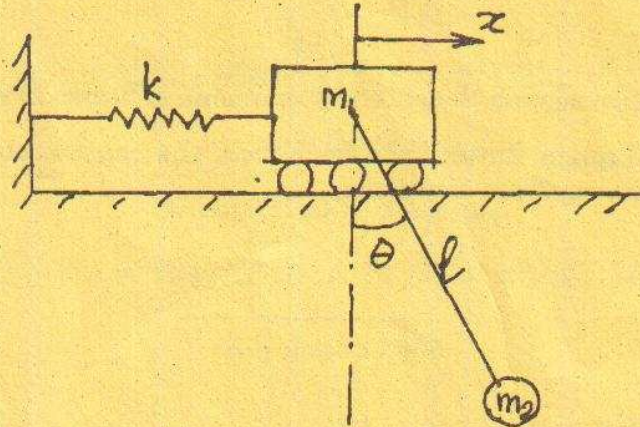

Fig. 1.
- (b) (i) What is resonance? (2)
- (1) the resonance frequency and amplitude (6)
- (2) the frequency corresponding to peak amplitude (4)
- (3) damped frequency. (4)
13. (a) (i) Explain the orthogonality relationship among the natural modes of vibrations. (6)
- (ii) Determine the natural frequencies and amplitude ratios for the system shown in Fig. 1. (10)